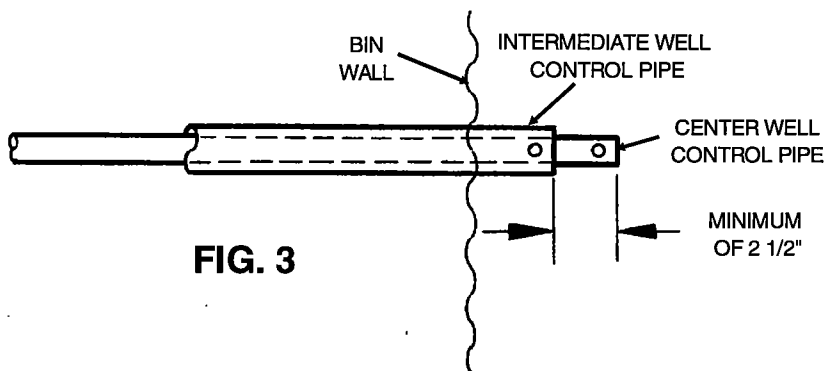

FIG. 3
- B. Check length of control pipe by sliding it through the control pipe of intermediate well(s). When the control pipe is fastened to the control gate clamp, the center well control pipe should extend past the end of the intermediate well control pipe a minimum of 3". See Fig. 3.
Configure the control pipe ends as shown in Fig. 3 when all bin well gates are closed. The intermediate well(s) is opened by placing a bolt through the intermediate control end and the center control and then operating the center well control pipe. Intermediate wells should not be opened until the bin has emptied to where grain will no longer flow into the center well.